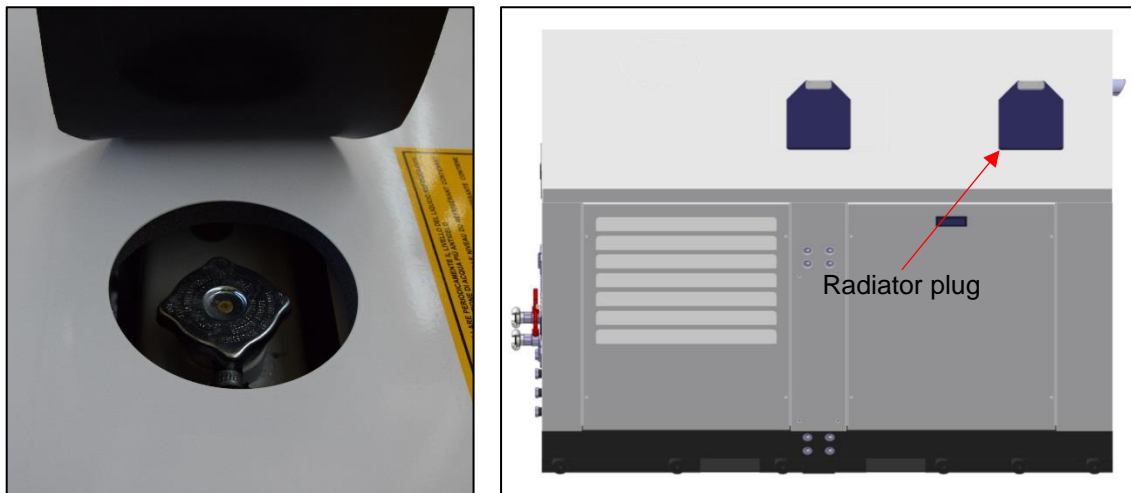

Figure 10.1-3 Checking the radiator cooling liquid
- 6 If the motor compressor is equipped with a liquid-cooling diesel engine, check the level of the cooling liquid contained in the radiator (Figure 10.1-3).
**WARNING:** *the radiator plug (Figure 10.1-3) must never be removed when the engine is hot: this would cause a sudden outflow of liquid which might cause severe scalding. Topping up - if required - must be made by means of a blend of water and anti-freeze liquid, in the percentage indicated on the container of the latter.*